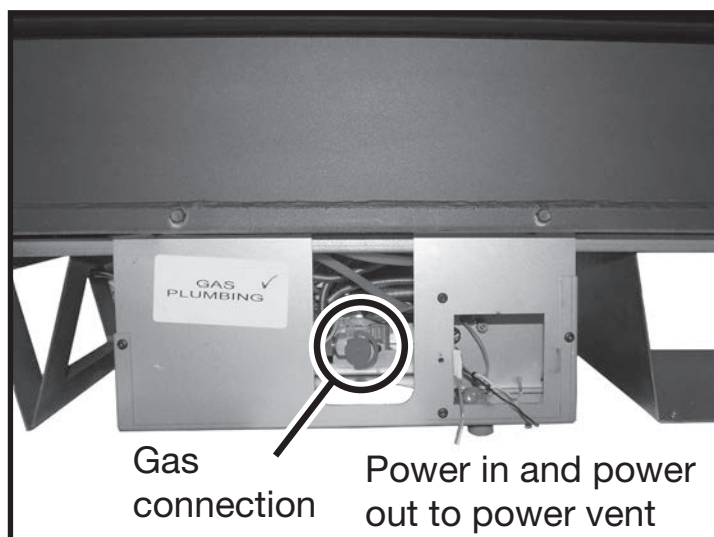

Figure 23: Gas and electrical connection location.
2. Locate the control box on the bottom left hand side of the fireplace (Figure 23).
1. Connect the gas supply to the gas valve. See "Figure 23" on page 15.